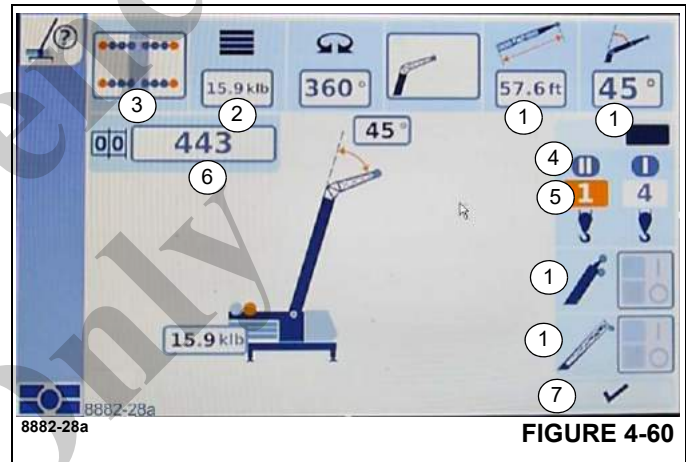

FIGURE 4-60
- Counterweight (2), (Figure 4-60).
- Boom system (1), (Figure 4-60).
- Outrigger span (3), (Figure 4-60).
When entering the components, the corresponding RCL code (6), (Figure 4-60) is displayed at the same time.
Then you must enter the current reeving (5), (Figure 4-60) and accept the indicated rigging mode.
- Select one of the desired components (1), (Figure 4-60) to (4), (Figure 4-60).